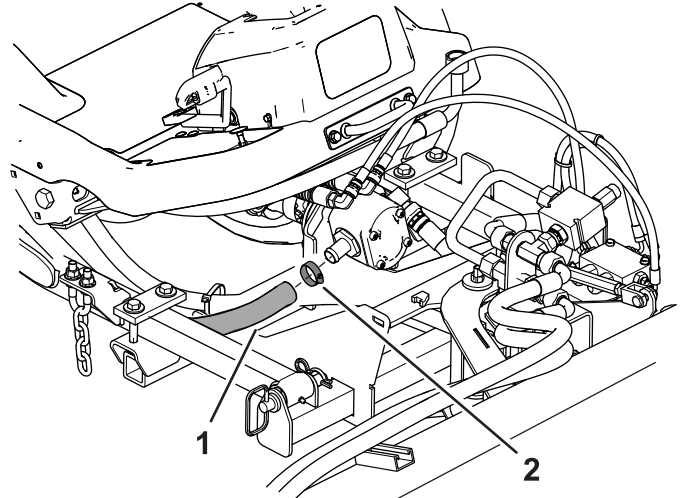

**Figure 14**
Use Figure 14 for identifying the hoses and the placement of the cable ties.
11. Install the cable ties at the positions shown in Figure 14.